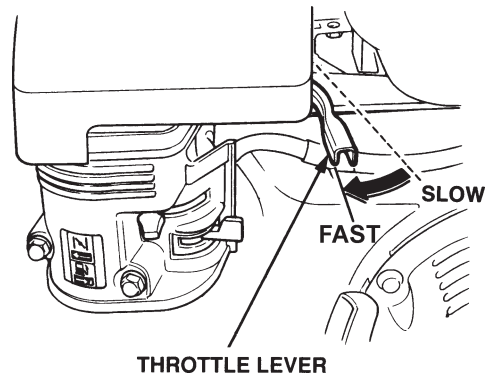

Figure 11. Throttle Lever
3. Move the throttle lever (Figure 11) away from the slow position, about 1/3 of the way toward the fast position.